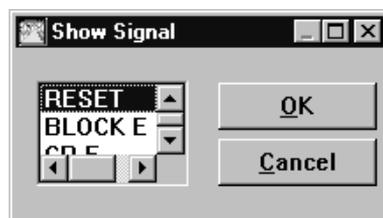

Fig. 29 The show dialogue box.
- 1 Select **Show** to show a dialogue box with a list of all hidden signals, see Fig. 29.